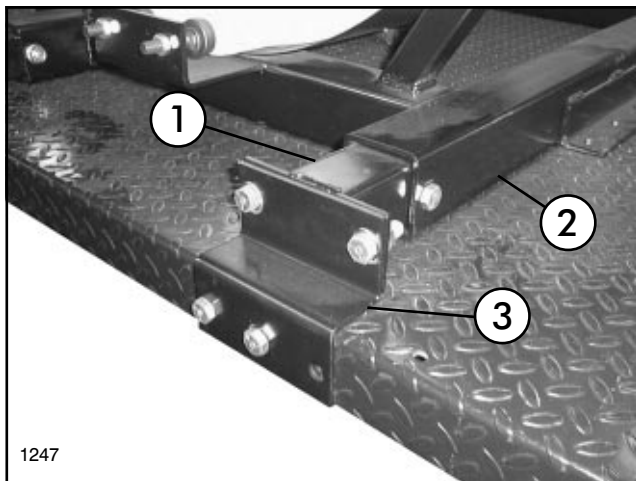

FIG. 1
2. Secure the 1/2" x 42" Agitator Hose to the 90° Barbed Elbow in bottom of Tank using (1) Hose Clamp. Assure that the Barbed Elbow is pointing to the front of Tank.
4. Secure the 1-1/4" x 36" Suction Hose to the 90° Barbed Elbow in bottom of Tank using (1) Hose Clamp.
6. Slide the (4) Connector Tubes into the Saddle Assembly. Secure with (4) 1/2" x 3-1/2" cap screws and flange nuts. See FIG. 1.
7. Secure the (4) Mounting Brackets to Connector Tubes using (8) 1/2" x 1-1/2" cap screws and flange nuts.
9. Attach Mounting Brackets to Cargo Bed using (8) 1/2" x 1-1/2" cap screws and flange nuts. See FIG. 1 & 2.